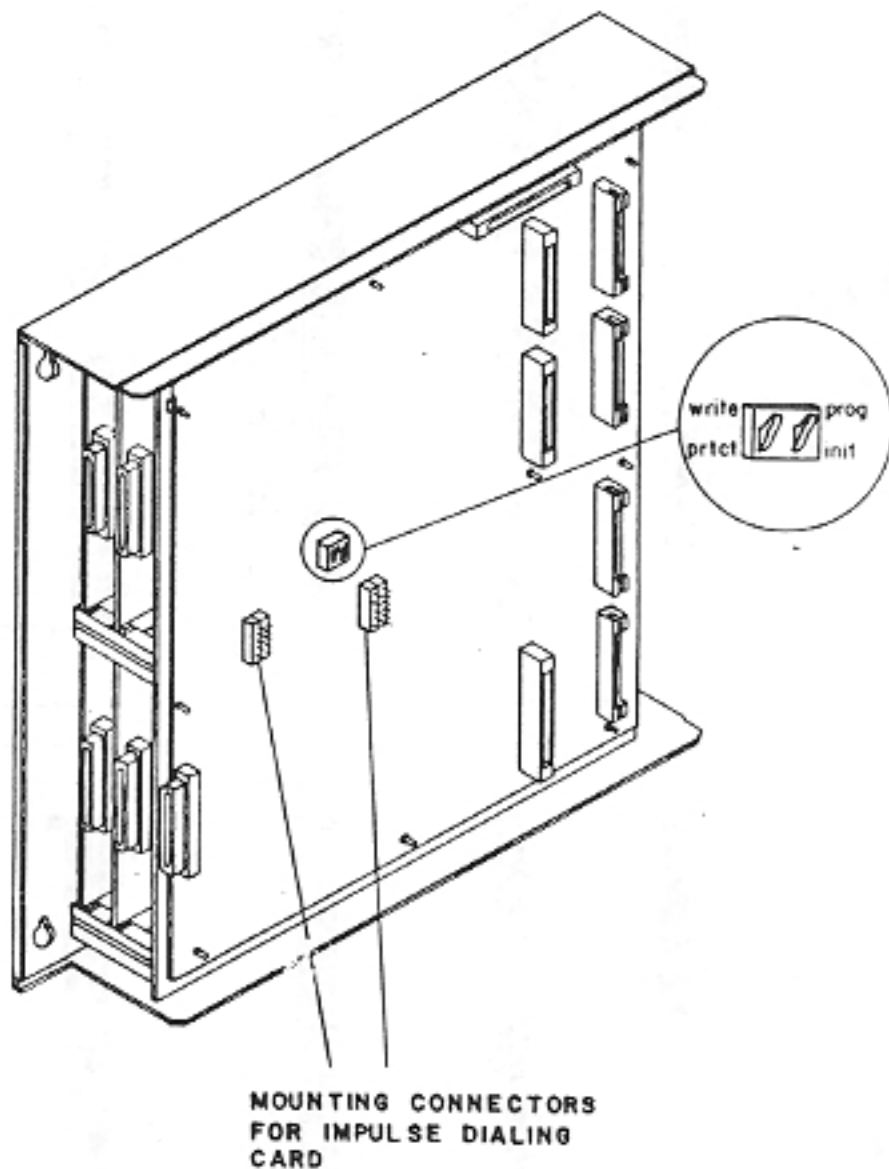

Figure 4-3 Switches on KSU.
3. Open the KSU. On the main board of the KSU, located left of the center of the board, are two switches SW1. Set them in the WRITE and PROG positions (see Figure 4-3).